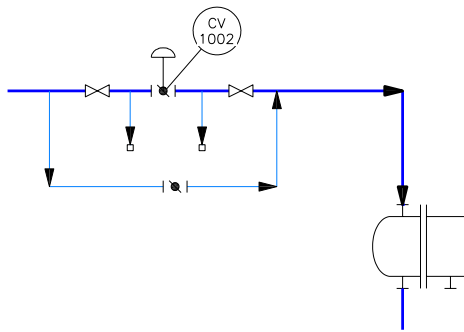

Figure 2-65 Secondary lines with plugs placed at their endpoints
12. Next, create two secondary lines connecting the steam inlet pipe, as shown in Figure 2-65.
13. Choose **Plug** from the **Piping Fittings** area in the **Fittings** tab of the **TOOL PALETTES - P&ID PIP**, and then place it at the endpoints of the secondary lines, refer to Figure 2-65.